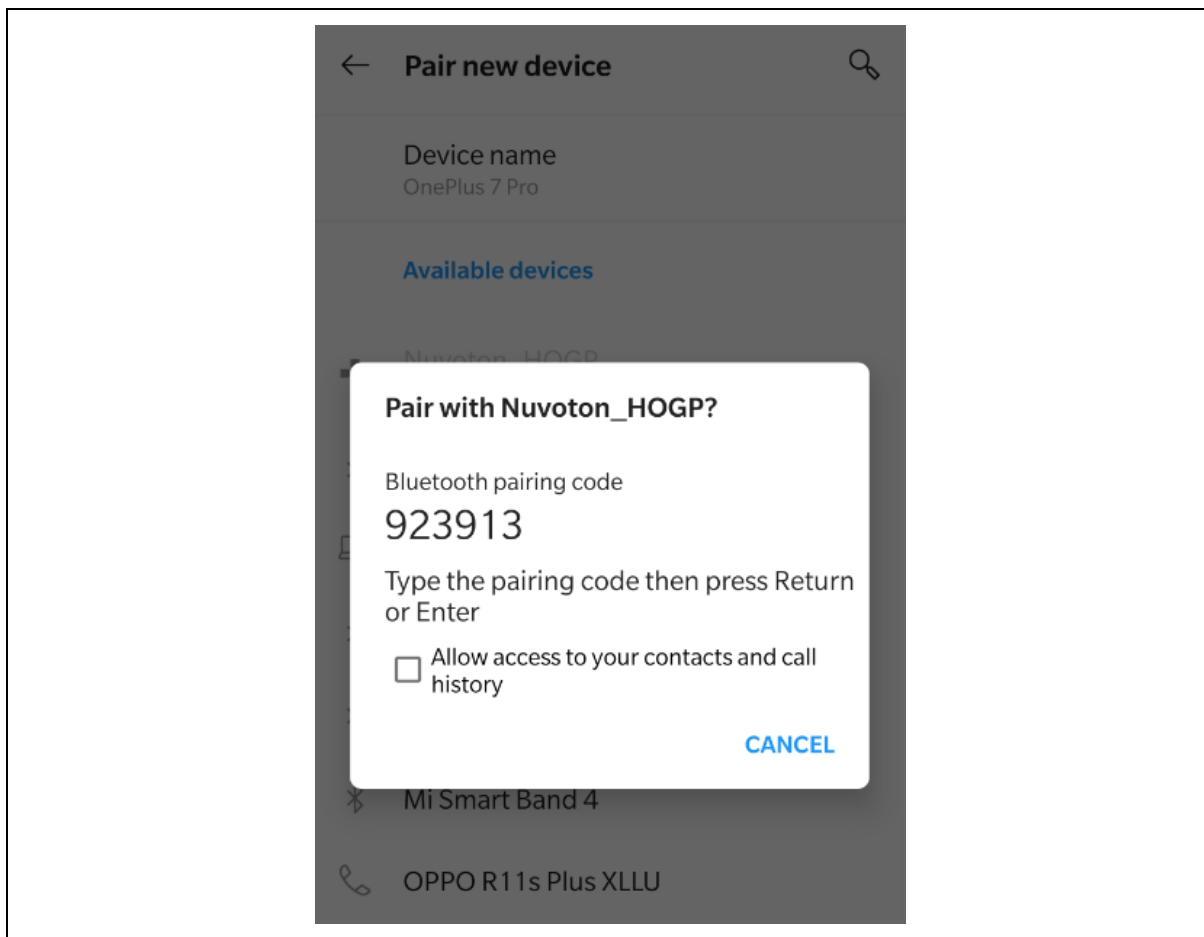

Figure 4-16 Show Bluetooth Pairing Code in Mobile
- If you select the IOCAPABILITY\_SETTING to be KEYBOARD\_ONLY, you will see the Bluetooth Pairing Key is shown in mobile, as shown in Figure 4-16. Then, you need to input the pairing key in debug console of device side to connect.